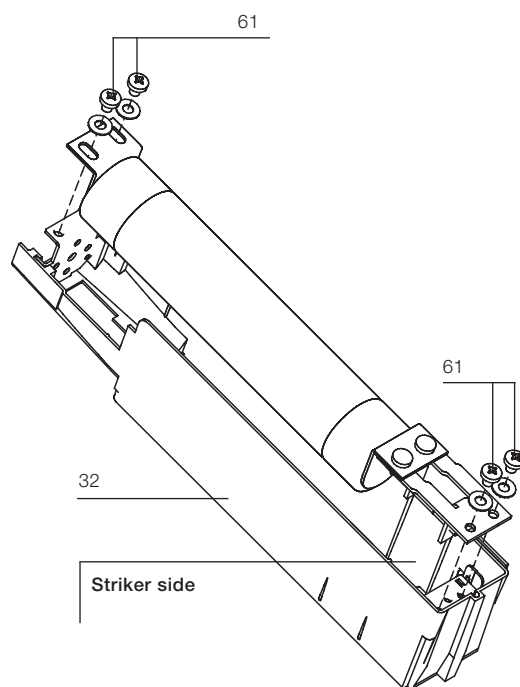

Fig. 20b
The fuseholder (32) (fig. 20b) is preset to take fuses with fixing centre distance of 553 mm. For smaller sizes, three adapters are needed, as indicated below:
- adapter (51) for fuses with fixing centre distance
b) Mounting the fuses (fig. 20b)